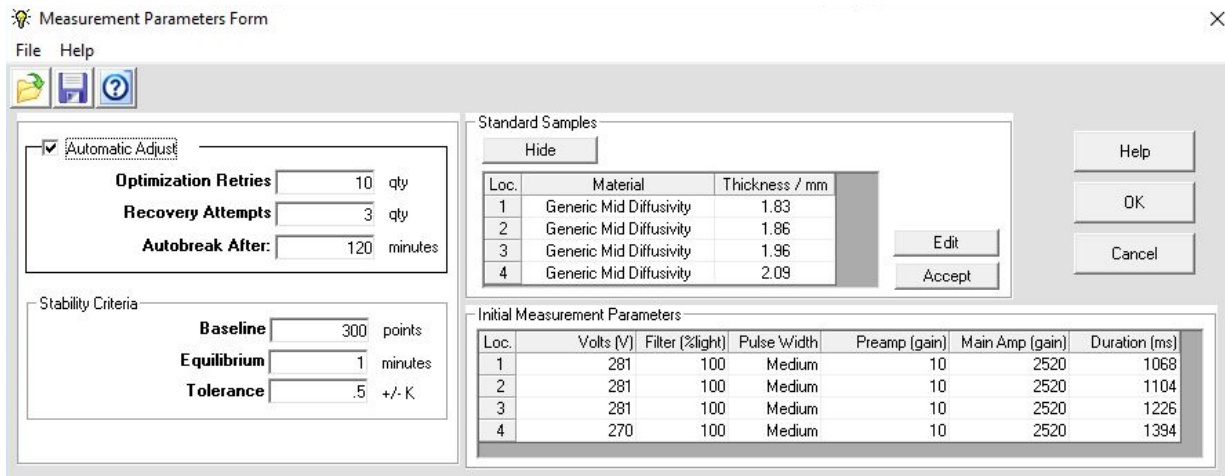

Figure 18. Measurement parameters form with information populated.
- Under “Automatic Adjust,” ensure the number of Optimization Retries is set to 10, recovery attempts are set to 3, and Autobreak After is set to 120 min. (as shown in Figure 18).